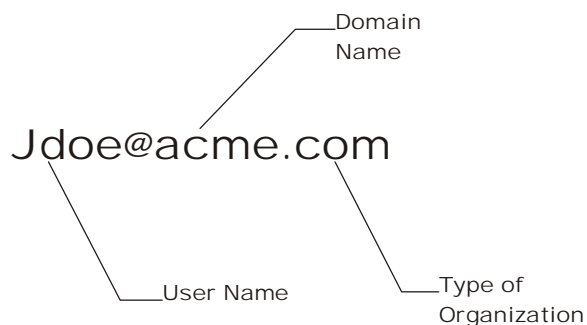

FIG. 308: PARTS OF AN E-MAIL ADDRESS
- Step 5. Click in the “To address text field”. Type in the address you want the E-mail sent to. Make sure to use the “at symbol (@)” between the User Name and the Domain Name, otherwise the server will not know that it is an E-Mail. Also make sure you put the correct extension to determine the type of organization the E-mail is being sent to (e.g. .com, .org, .edu, .net etc.). (See Fig. 308)